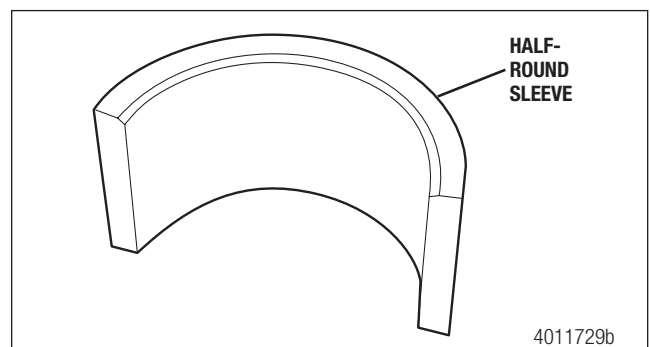
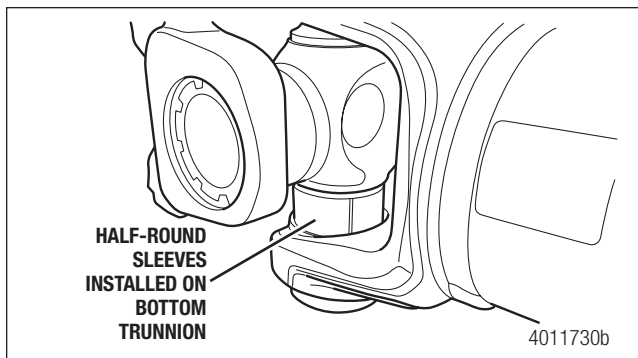

Figure 5.71
Figure 5.72
7. Lift up the cross and install the half-round sleeves on the radius of the bottom trunnion as shown. Refer to Section 16 for a tool drawing. Figure 5.71 and Figure 5.72.